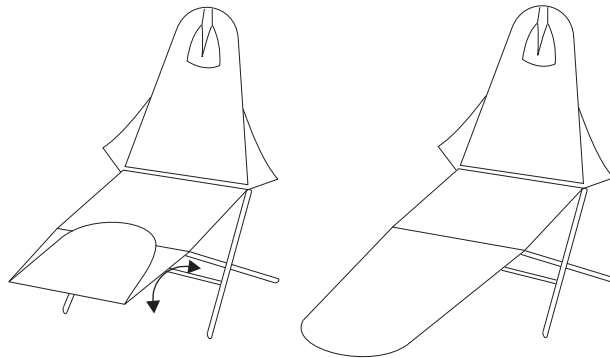

Figure 3 - Folding Out Foot/Leg Rest
4. When the chair has been raised and the height set, the foot and leg portion should be folded forward, out horizontally. It will stop in the horizontal position. (Fig. 3)